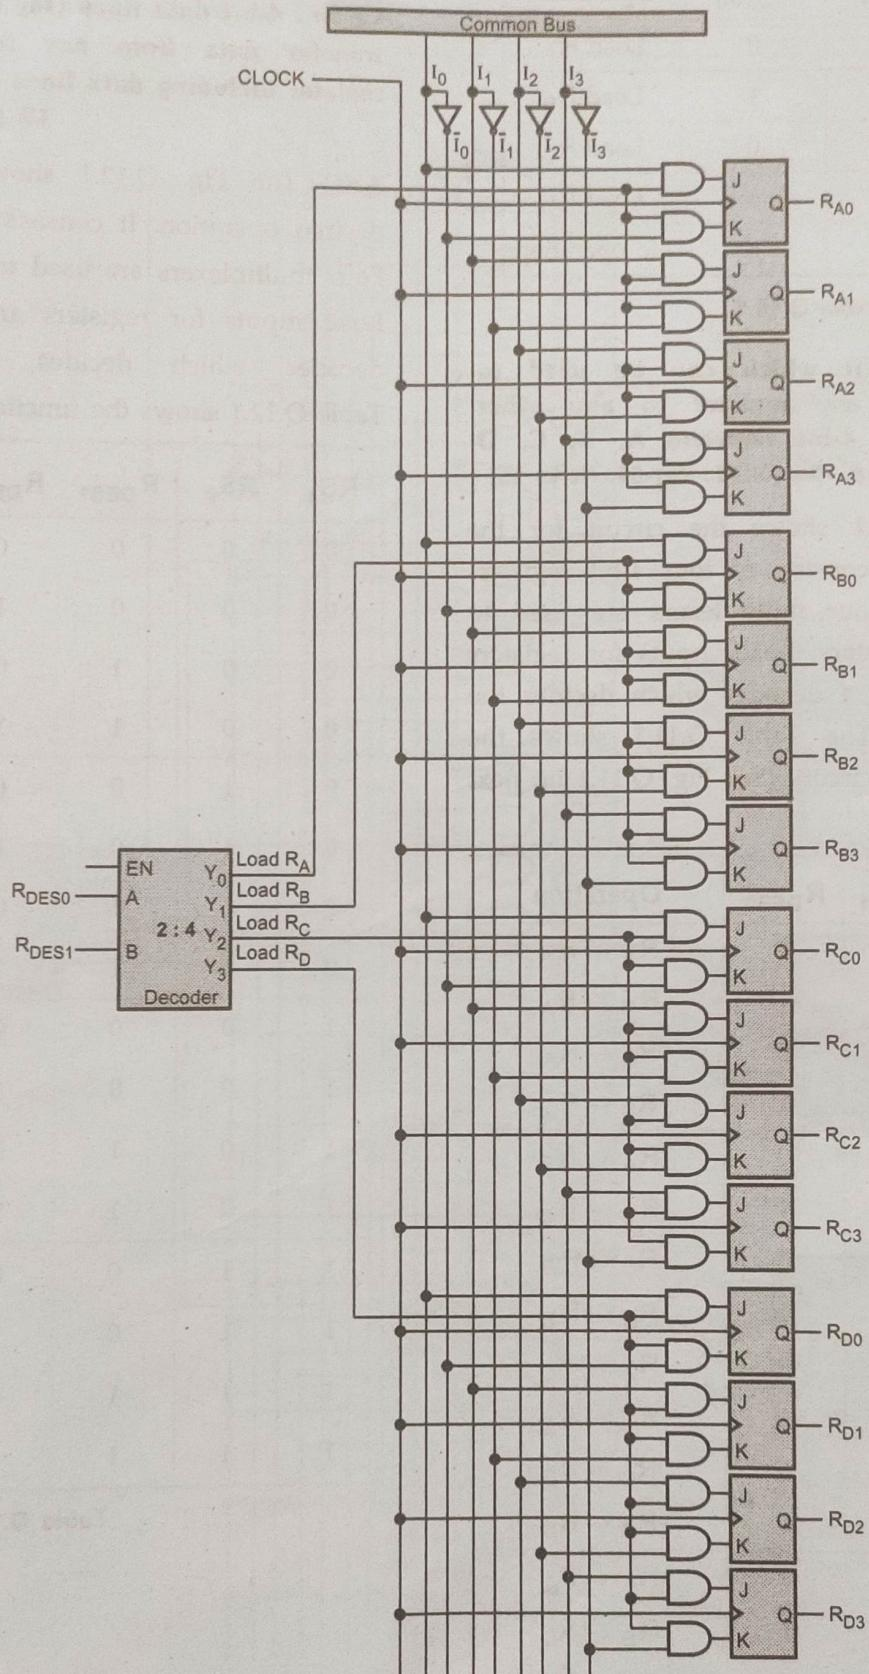

Fig. Q.10.1
**Ans. :** The Fig. Q.10.1 shows the circuit for the desired operation. It consists of four 4-bit registers with JK flip-flops. Load inputs for registers are derived using 2:4 decoder which decides the destination register in which data from the common bus is to be loaded. The Table Q.10.1 shows the function table for the circuit.